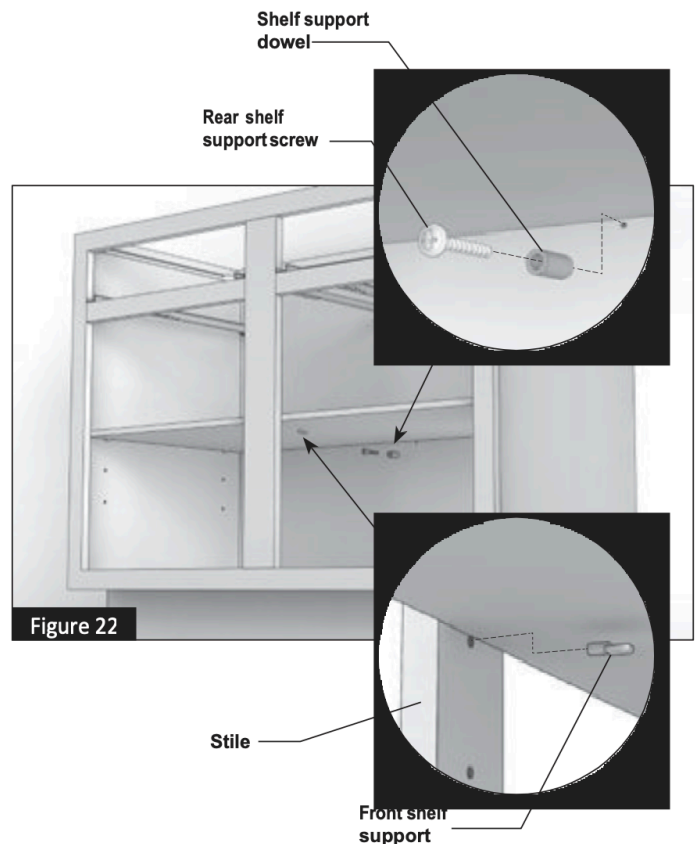

Figure 22
- 8.2 Install shelves by placing the shelf supports into the holes on both sides of the cabinet, push in completely and turn until the flat side rests upward and place the shelves into position. On wide cabinets, you will also need to insert a shelf rest on the back wall and front stile of the cabinet for added stability using the kit enclosed with the cabinet. (Figure 22)